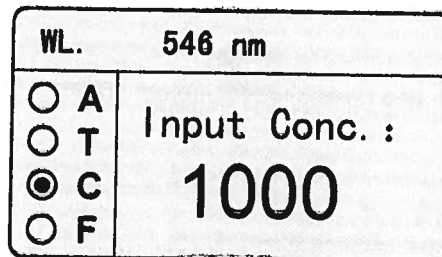

Fig. 4-7
- 4) Press **▲** or **▼** to input the Standard Sample's Concentration, press **ENTER** to confirm. (Fig. 4-7)